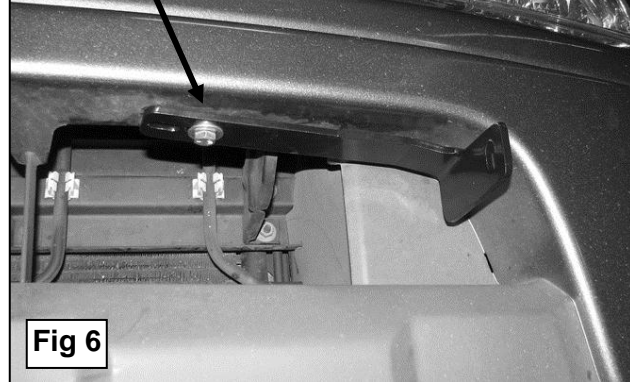

Fig 6
5. Line up the hole in the Top Bracket, **(see Figure 5 to determine correct Top Bracket)** with the Nut Plate and secure the Top Bracket with (1) 8mm x 25mm Hex Bolt, (1) 8mm Flat Washer and (1) 8mm Lock Washer, **(Figure 6)**. **NOTE:** Two slotted holes are provided to allow for proper fit to the vehicle. Snug but do not tighten hardware at this time. Repeat this step for the passenger side Top Bracket installation.